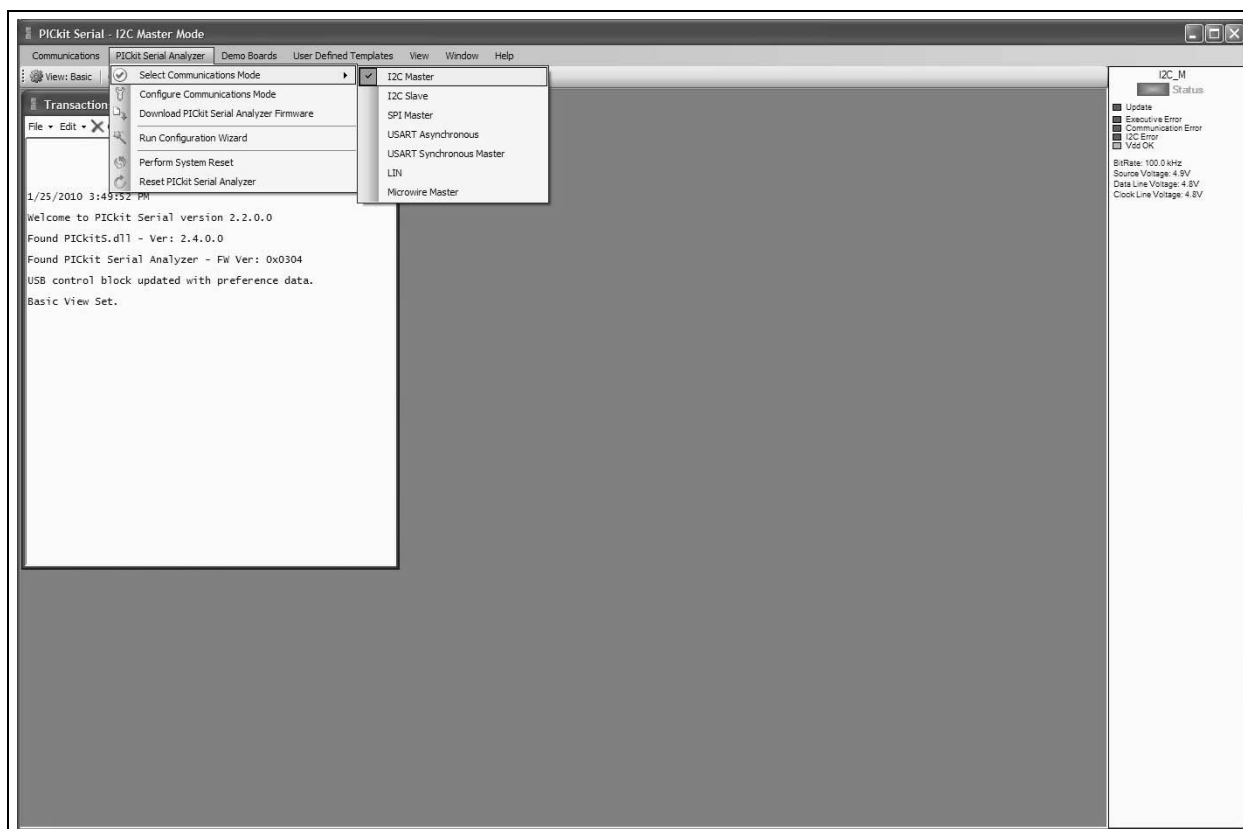

FIGURE 2-7: PICkit™ Serial Selecting Communications Mode.
We need to select the PICkit Serial Analyzer GUI to be in I2C Master mode. Figure 2-7 shows how to select the proper mode. Select *PICkit Serial Analyzer* -> *Select Communications Mode* -> *I2C Master* menu item (make sure the I2C Master item is checked).
5. Ensure the GUI is in Master I²C communication mode (see Figure 2-7).